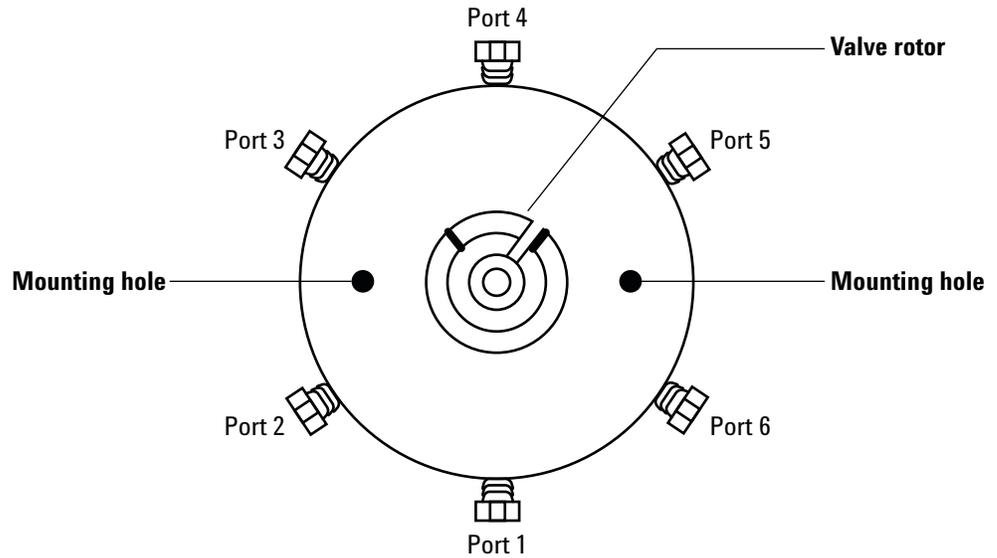

Figure 33 The 6 port valve and valve rotor
- Using a small pencil magnet, set the new rotor in place on the 6 port valve with the rotor ID letter facing port 4 (Figure 33).